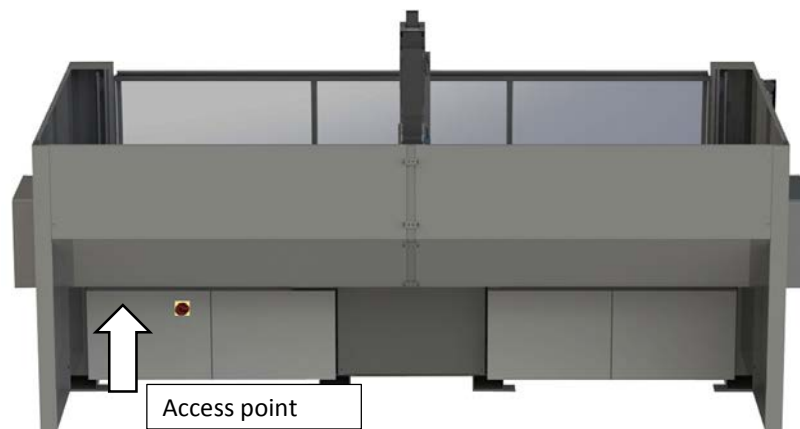

Fig. 72
- With the help of a brush, apply lubricant of the type indicated in Table 8 along the entire accessible length of the area shown in Fig. 72.